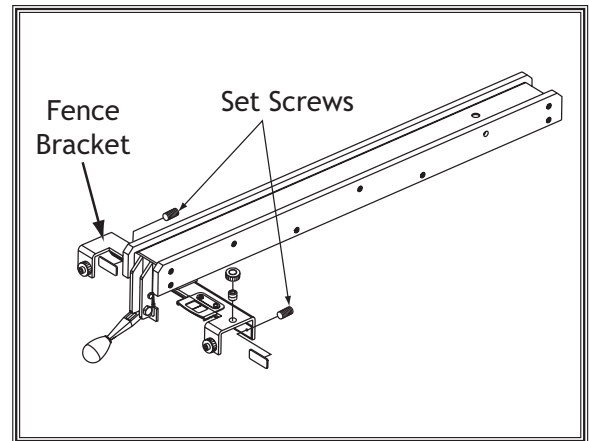

Figure 107. Location of set screws used to adjust fence parallelism and clamping pressure.
3. Equally adjust the set screws shown in **Figure 107** on the rear side of the front bracket as necessary until the clamping pressure is strong enough that the fence will not move as pressure is applied against it.